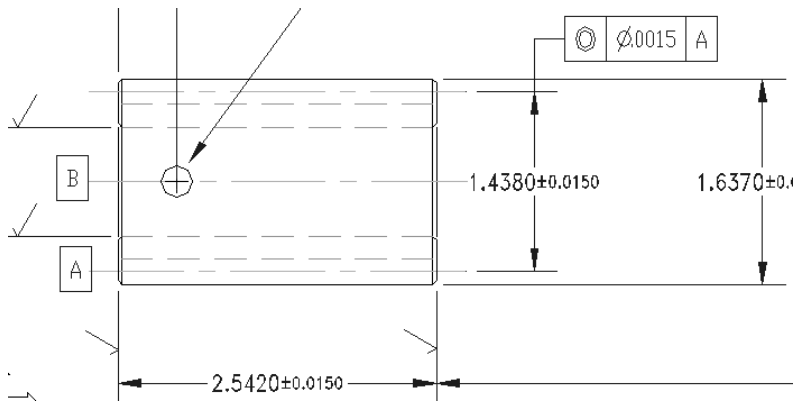

Figure 15-30: Symmetrical tolerances
- ♦ **Symmetrical** tolerances have the same upper and lower amounts and are shown with a plus/minus sign, as shown in Figure 15-30. The Upper value text box is active so that you can type in the tolerance amount.